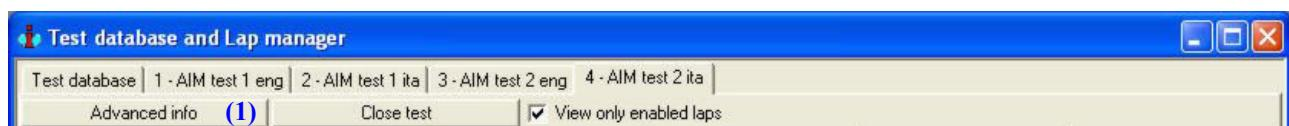

Fig. 3.9– Test database and Lap manager window: layers and buttons.
If you wish to have more information about a test, please select the desired test among the loaded ones and click the “Advanced info” (1) button, as shown in Figure 3.9.